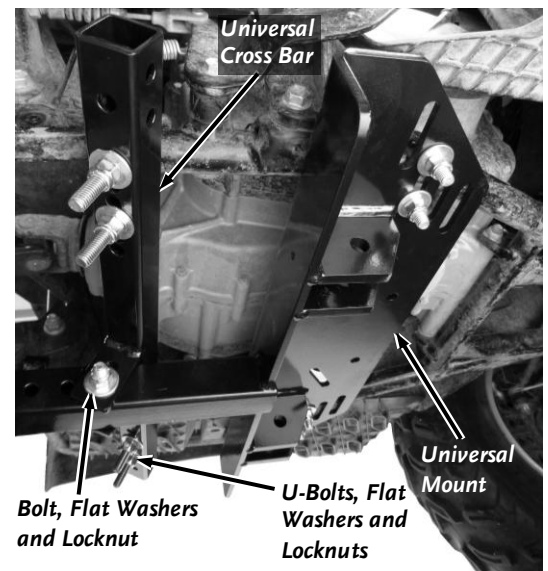

Figure 13
10. Reposition the Cross Bar against the Frame with the center Tabs over the Universal Mount Tube (**Figure 13**). Insert the U-Bolts, or Bolts into the holes in the Cross Bar. Install a Flat Washer, Lock Washer and two Jam Nuts on each U-Bolt or Bolt using a 9/16" Wrench but leave the hardware fairly loose for now.